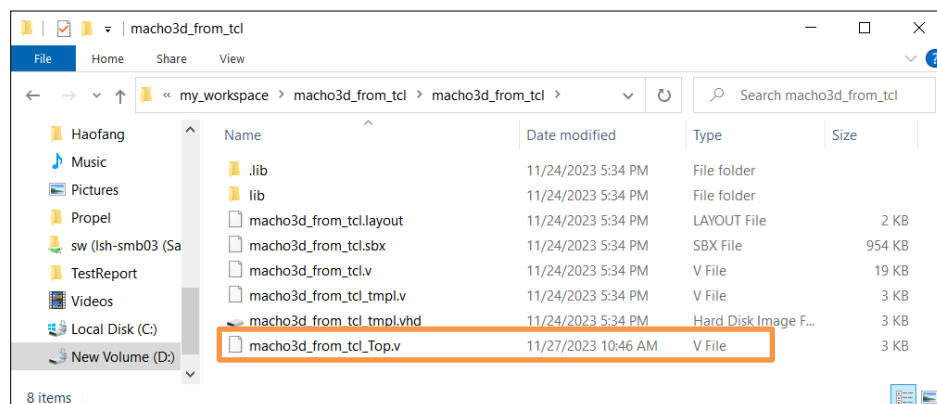

Figure 5.12. Rename Top File Copied from Source Project
- Rename the file to <new\_project\_name>\_Top.v (Figure 5.12).